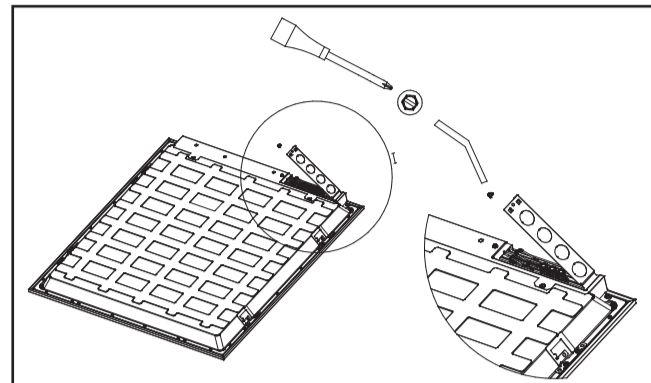

Figure 1.
- On the back side of fixture, locate junction box cover and slide to remove it (see Fig. 1).